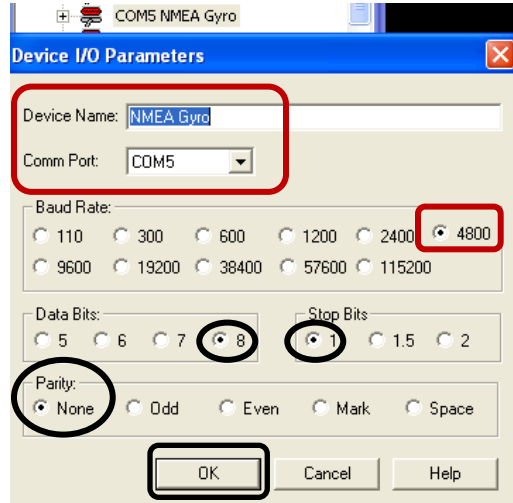

Figure 12
4.7 After “OK” has been clicked, verify the **“Device I/O Parameters”** are set for the **GYRO**. See Figure 12.